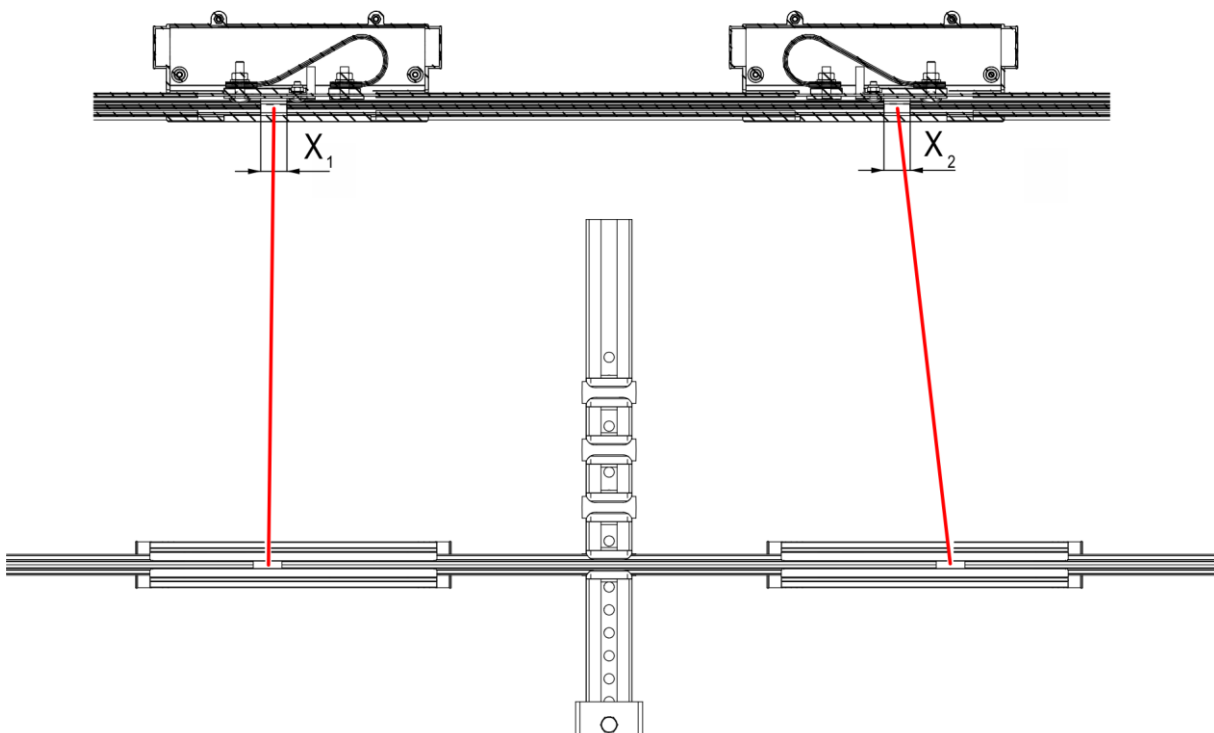
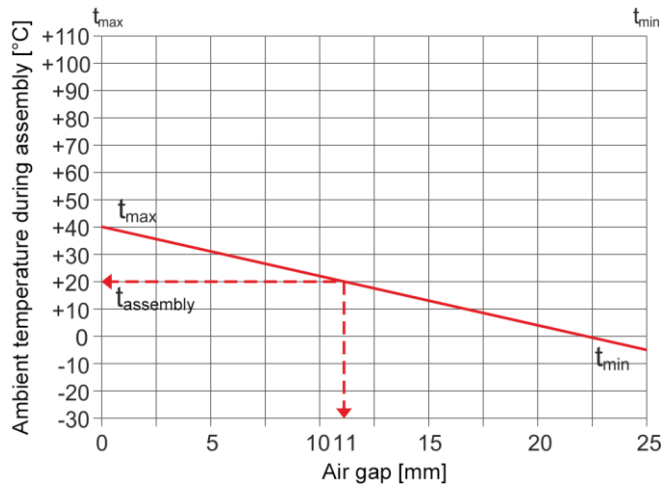

Fig. 95: Air gap in the expansion unit
Fig. 96: Determine the size of the air gap
- The size of the air gap depends on the ambient temperature during installation. Determine the air gap dimension, consisting of the expansion point dimensions  $x_1$  and  $x_2$  (see Fig. 95), using the diagram (see Fig. 96 or the template diagram in Section 12.2). Set the determined dimension from below. The dimension does not need to be set symmetrically at the expansion points.